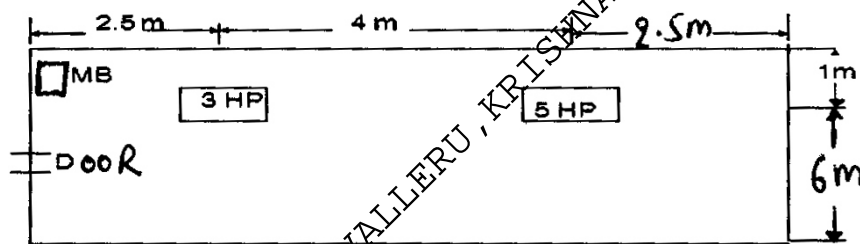

Fig 2 : Plan of workshop
14. Two 3-phase, 400 V induction motor are installed in a workshop of plan show in Fig. 2. Make a neat single-line sketch of power wiring of the machines. Also prepare the list of materials required for the power wiring installation. Assume missing data, if any.